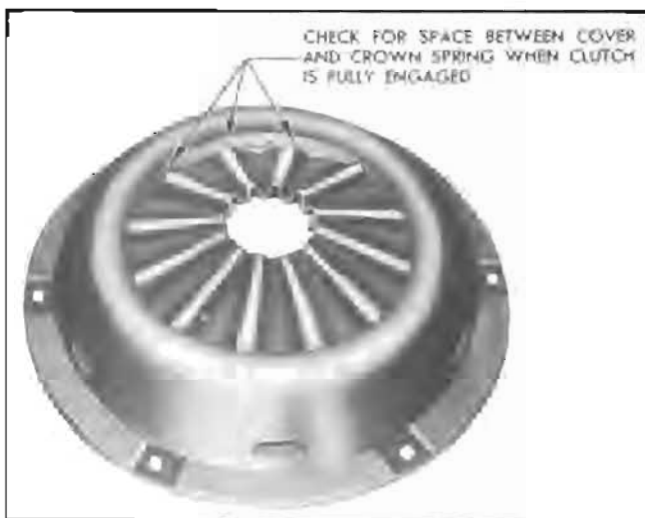
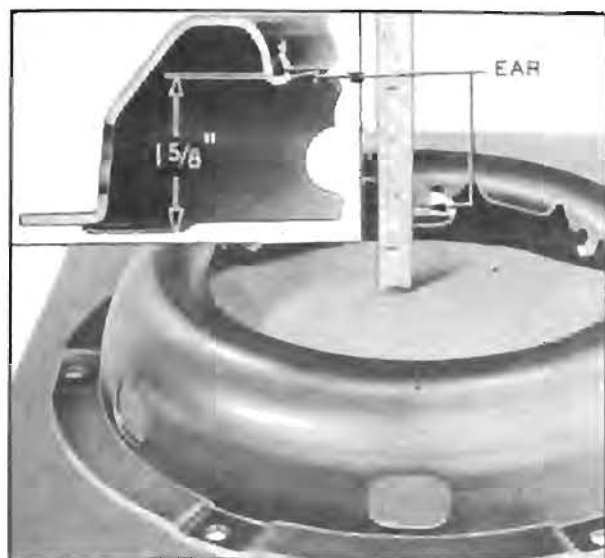

Figure 4-6—Points to Check Contact of Clutch Spring with Cover
Figure 4-7—Setting of Spring Retainer Ears on Clutch Cover
9. Have a helper hold clutch fully disengaged, then check with a feeler gauge for space between cover and clutch spring at points of contact. See figure 4-6. The clutch will not fully disengage if any one of the clutch spring contact points fails to solidly contact the cover. This condition must be corrected by removing clutch and properly setting the spring retainer ears on cover. See figure 4-7.
2. *Clutch Cover.* Inspect clutch cover for cracks or distortion. Place cover on a flat surface and measure setting of each of the six ears where spring retainers are attached. The dimension from flange surface of cover to top surface of each ear should be $1\frac{5}{8}$ inch. See figure 4-7. If dimension is not $1\frac{5}{8}$ inch, and cover is otherwise serviceable, the ears should be bent as required, using care to avoid cracking the metal.